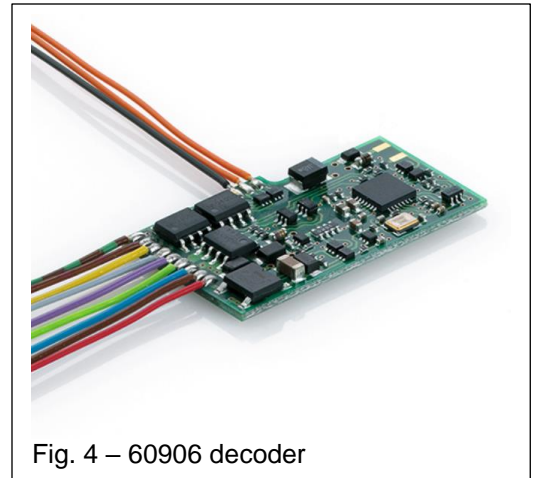

Fig. 4 – 60906 decoder
The 60906 decoder (Fig. 4) is unique where it combines all the functions of the previous MFX decoders into one that is made for a field coil motor (AC). This means that the original motor does not need to be changed. It responds to MM/FX and MFX protocols as well as DCC and analog. Except for only having two physical outputs and lights, it is configurable like the MFX decoders I have mentioned above. This is a wired decoder to replace the analog reverse unit.